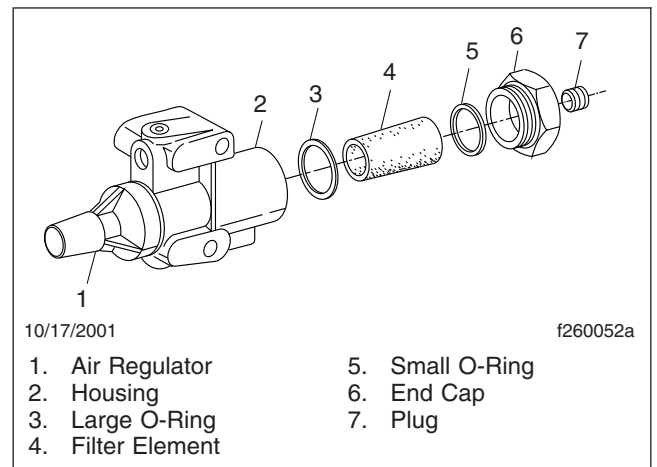

Fig. 6, Eaton Fuller Transmission Air Filter/Regulator Components
3. Remove the end cap, large O-ring, and filter element from the filter housing. See Fig. 6. Remove the small O-ring from the end cap.